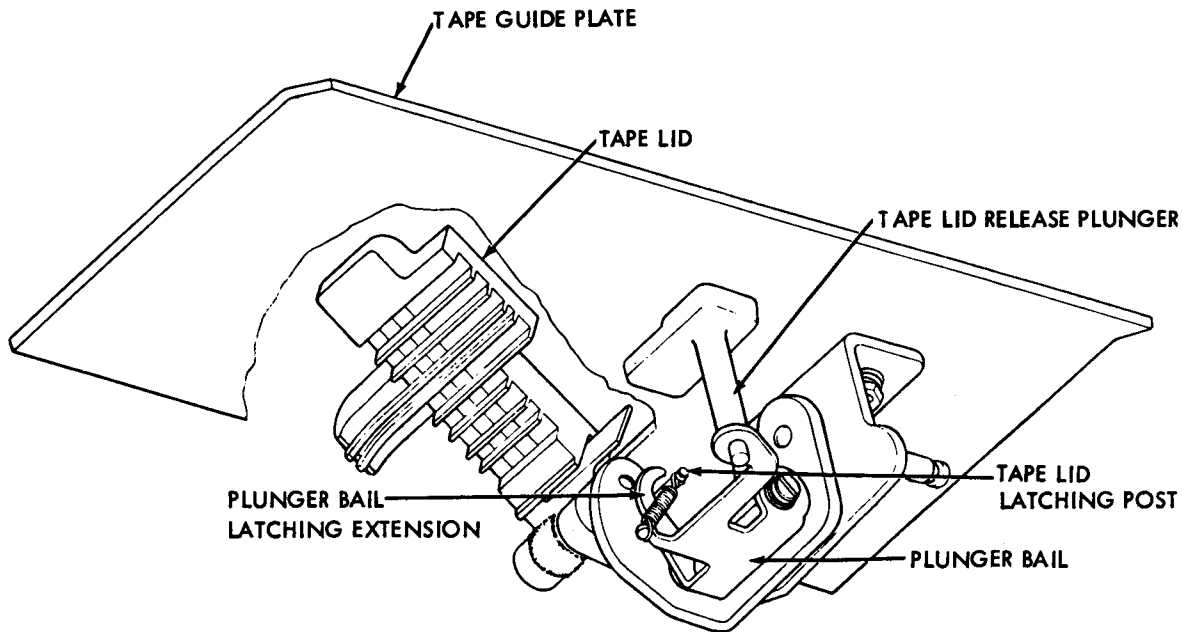

Figure 4-11. Tape Lid Mechanism (Bottom View)
(1) TAPE LID OPERATION. (See figure 4-11.)